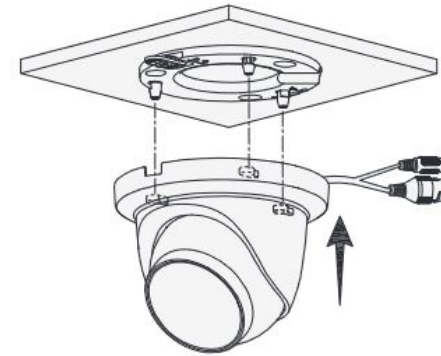

Figure 2-3
Step 3 Install the camera to the base, lining up the locking tab position.. See Figure 2-3.